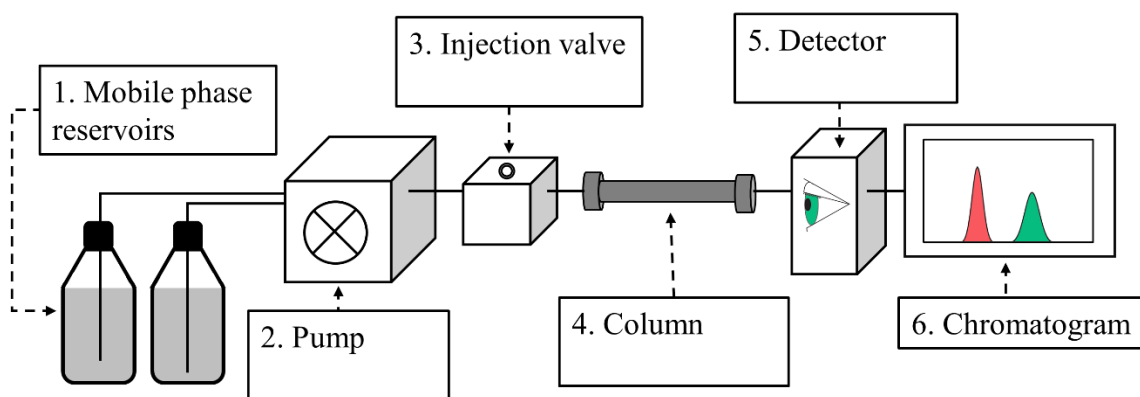

Figure 4. Schematic diagram of a high-performance liquid chromatograph.
2. Consider the image of a HPLC in Figure 3. Identify each component on the picture of the high-performance liquid chromatograph in Figure 4.
See labeled Figure 4.